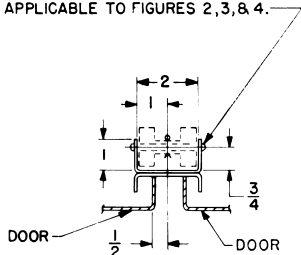

Figure 2
(1) $\frac{1}{4}$ DRILL IN EACH LEG OF INSIDE DOOR CHANNEL AT C OF VAULT HANDLE APPLICABLE TO FIGURES 2, 3, & 4.
Figures 2 and 3 show the type of channel construction where two doors close on a common channel.
In Figure 2, the dimensions apply when a Type M8 kit is used on each regardless of whether a Class 9423 Type M2 auxiliary door interlock is used.